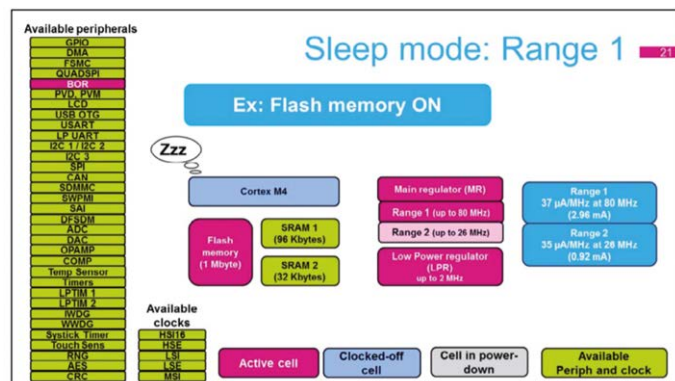

Figure 15.5: Sleep mode.
**Sleep mode:** in this mode (Figure 15.5), the CPU clock is off, system clock can be up to 80MHz. All peripherals can be activated. SRAM clocks are enabled but can be gated off. Power consumption is 37  $\mu\text{A}/\text{MHz}$ .